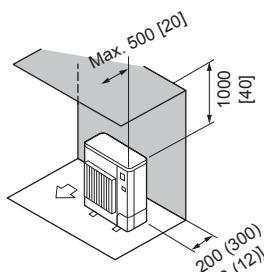

Fig. 2-7
② Obstacles at rear and above only (Fig. 2-7)